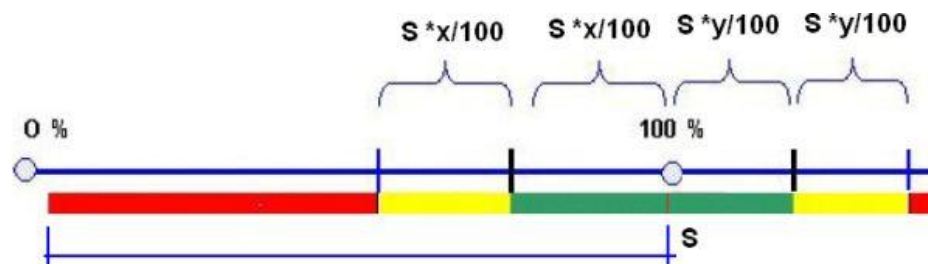

Figure 56: Example of a Defined Section – Step Value
This chapter briefly discusses the principal procedure. In addition, this chapter includes a schematic diagram for the step value (Please refer to the Figure 56).
- Green means that occupancy is at its optimum level. *Please refer to the Figure 56.*